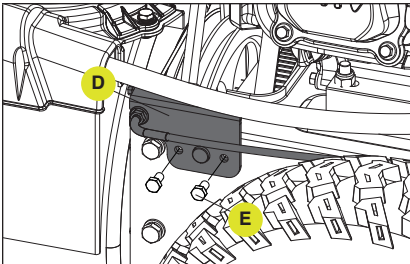

Figure 57
5. Remove the auger plate (D) as shown on the front of the engine by removing two M6 × 12 bolts (E). (Fig. 57)